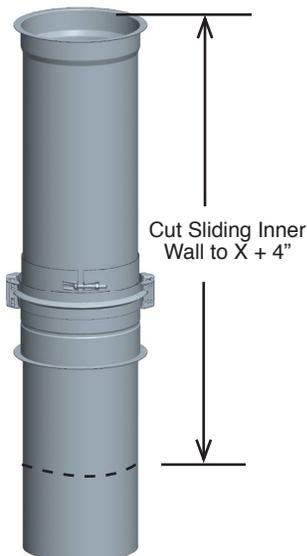

Figure 26a - Step 2 - Cut of the Sliding Inner Wall
2. Cut the inner wall at the dimension X found at the first Step plus 4". See **Figure 26a**.